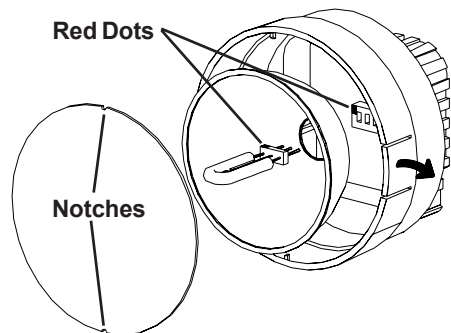

Figure 4 Lamp Replacement
4. Reinstall the reflector and then position the front lens in place matching up the notches on the lens with the two small tabs on the housing to prevent lens rotation (see Figure 4). Push the tabs on the front rim outward and press the lens into place.
3. The lamps are polarized and must be put into the socket matching polarity. **Using a lint free cloth, match up the red dot on the plug with the red dot on the socket** and gently rock the lamp while pushing it into place (see Figure 4). Make sure the lamp is in straight and centered in the reflector hole.